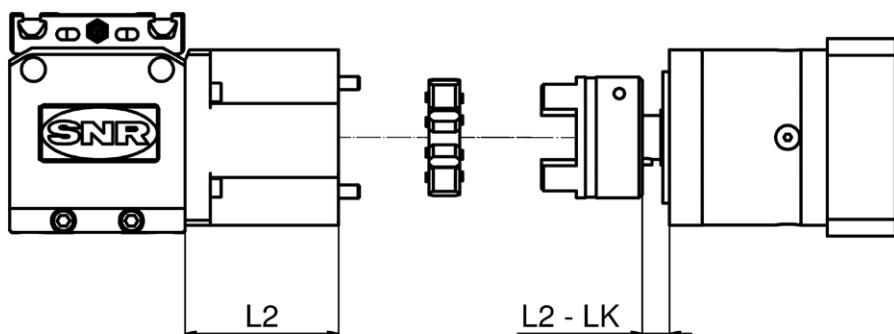

Figure 3.8 ____ Mounting dimension
3. Insert this assembly into the coupling half with elastomer gear rim screwed to the drive head **6**, and tighten them with the screws **7**. Consider the dimensions LK and L2 (Figure 3.8) from Table 6.20, Chapter 6.2.3.2.